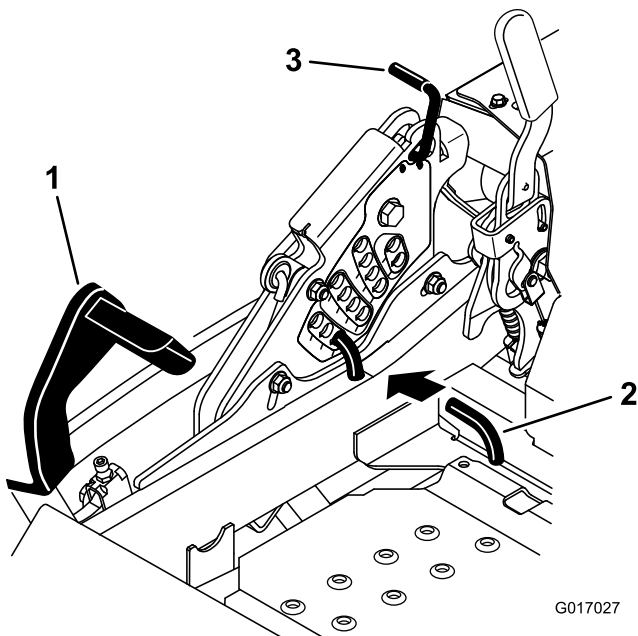

Figure 89
5. Push the deck lift pedal all the way forward and the deck will latch at the 14 cm (5 1/2 inch) transport position (Figure 89).